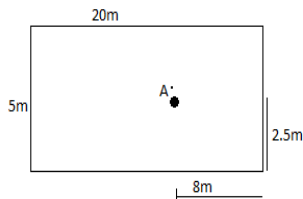

fig 1
25. A strip footing is given in plan as shown in **fig 1**. The total load per unit area is 300 KN/m². Determine the intensity of vertical stress at a point 5m directly below the point A. (9.55t/m²)